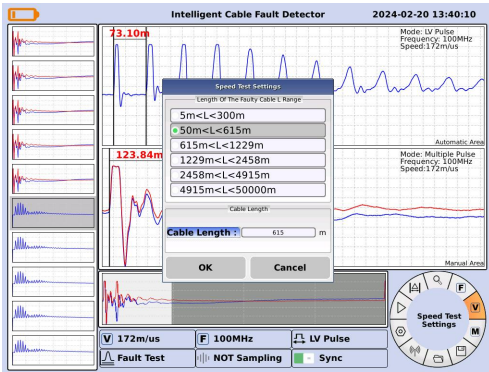
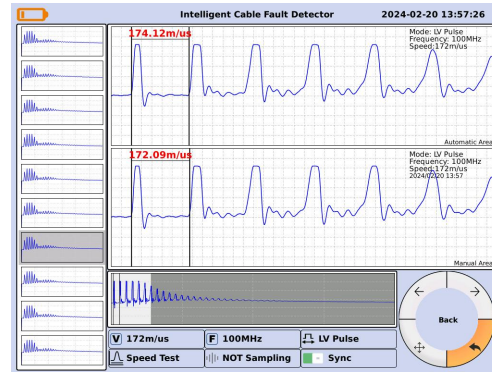

Figure 4.6 Speed Test Setting Interface
Figure 4.7 Interface After Speed Test Completion
As shown in Figure 4.6, rotate the ⑰ "Mouse" knob to switch the focus to **V**. Press the ⑰ "Mouse" knob to enter the speed test interface. After selecting the cable length and sampling frequency, rotate the ⑰ "Mouse" knob to switch the focus to the "OK" button, and press the ⑰ "Mouse" knob to successfully set the parameters. Once the settings are complete, rotate the ⑰ "Mouse" knob to the position indicated by "Error! Reference source not found." and press it to start data acquisition, resulting in speed measurement results as shown in Figure 4.7.